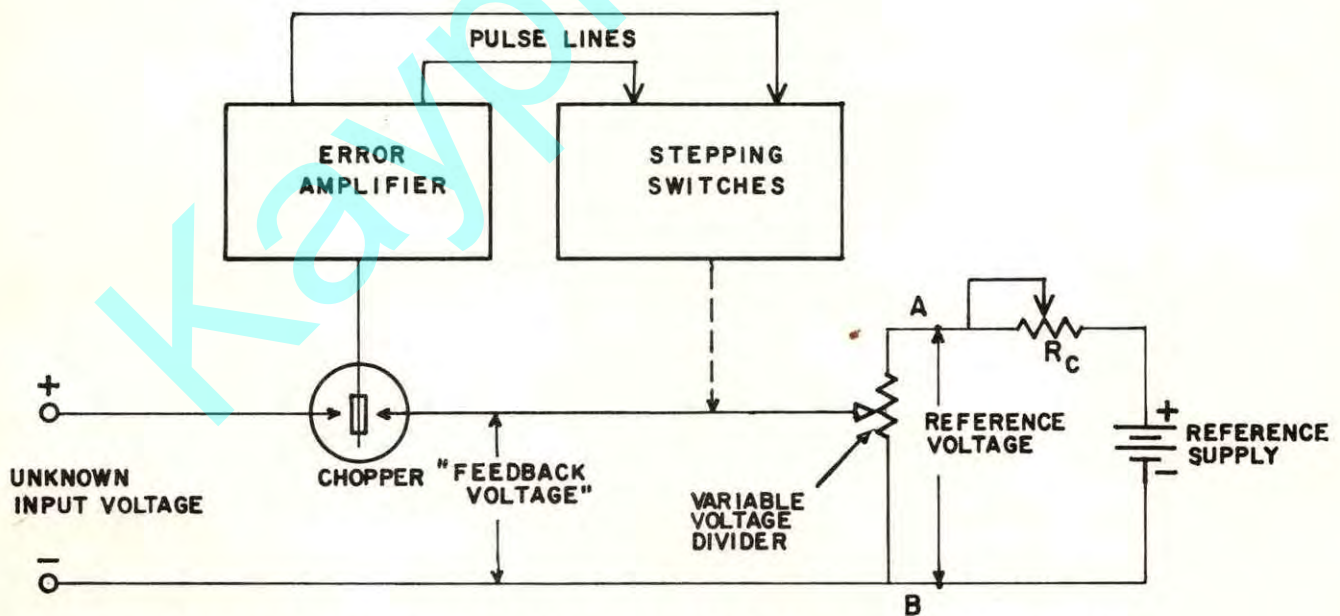

FIGURE 4-3 SIMPLIFIED SCHEMATIC, SINGLE RANGE DIGITAL VOLTMETER FOR MEASURING ABSOLUTE DC VOLTAGES
- B. DIGITAL VOLTMETER BASIC PRINCIPLE: As previously mentioned, NLS stepping switch type digital voltmeters are essentially self-balancing digital potentiometers. Simplified schematics are shown in Figures 4-3 and 4-4. A stepping switch operated variable voltage divider, composed of wire wound resistors, divides a voltage, which is called the reference voltage, into a large number of precisely equal parts in the decimal number system. These particular stepping switches are called decade switches. An error amplifier compares this divided voltage, which is called the feedback voltage, with the input signal, and commands stepping switch motion in a logical sequence until the two voltages are equal within the limits of resolution of the instrument; whereupon stepping switch motion ceases, and the instrument is said to be at balance. Input to the error amplifier is through an electro-mechanical chopper. Automatic range and polarity changing features are accomplished by a combination range and polarity switch. (See Figure 4-4).